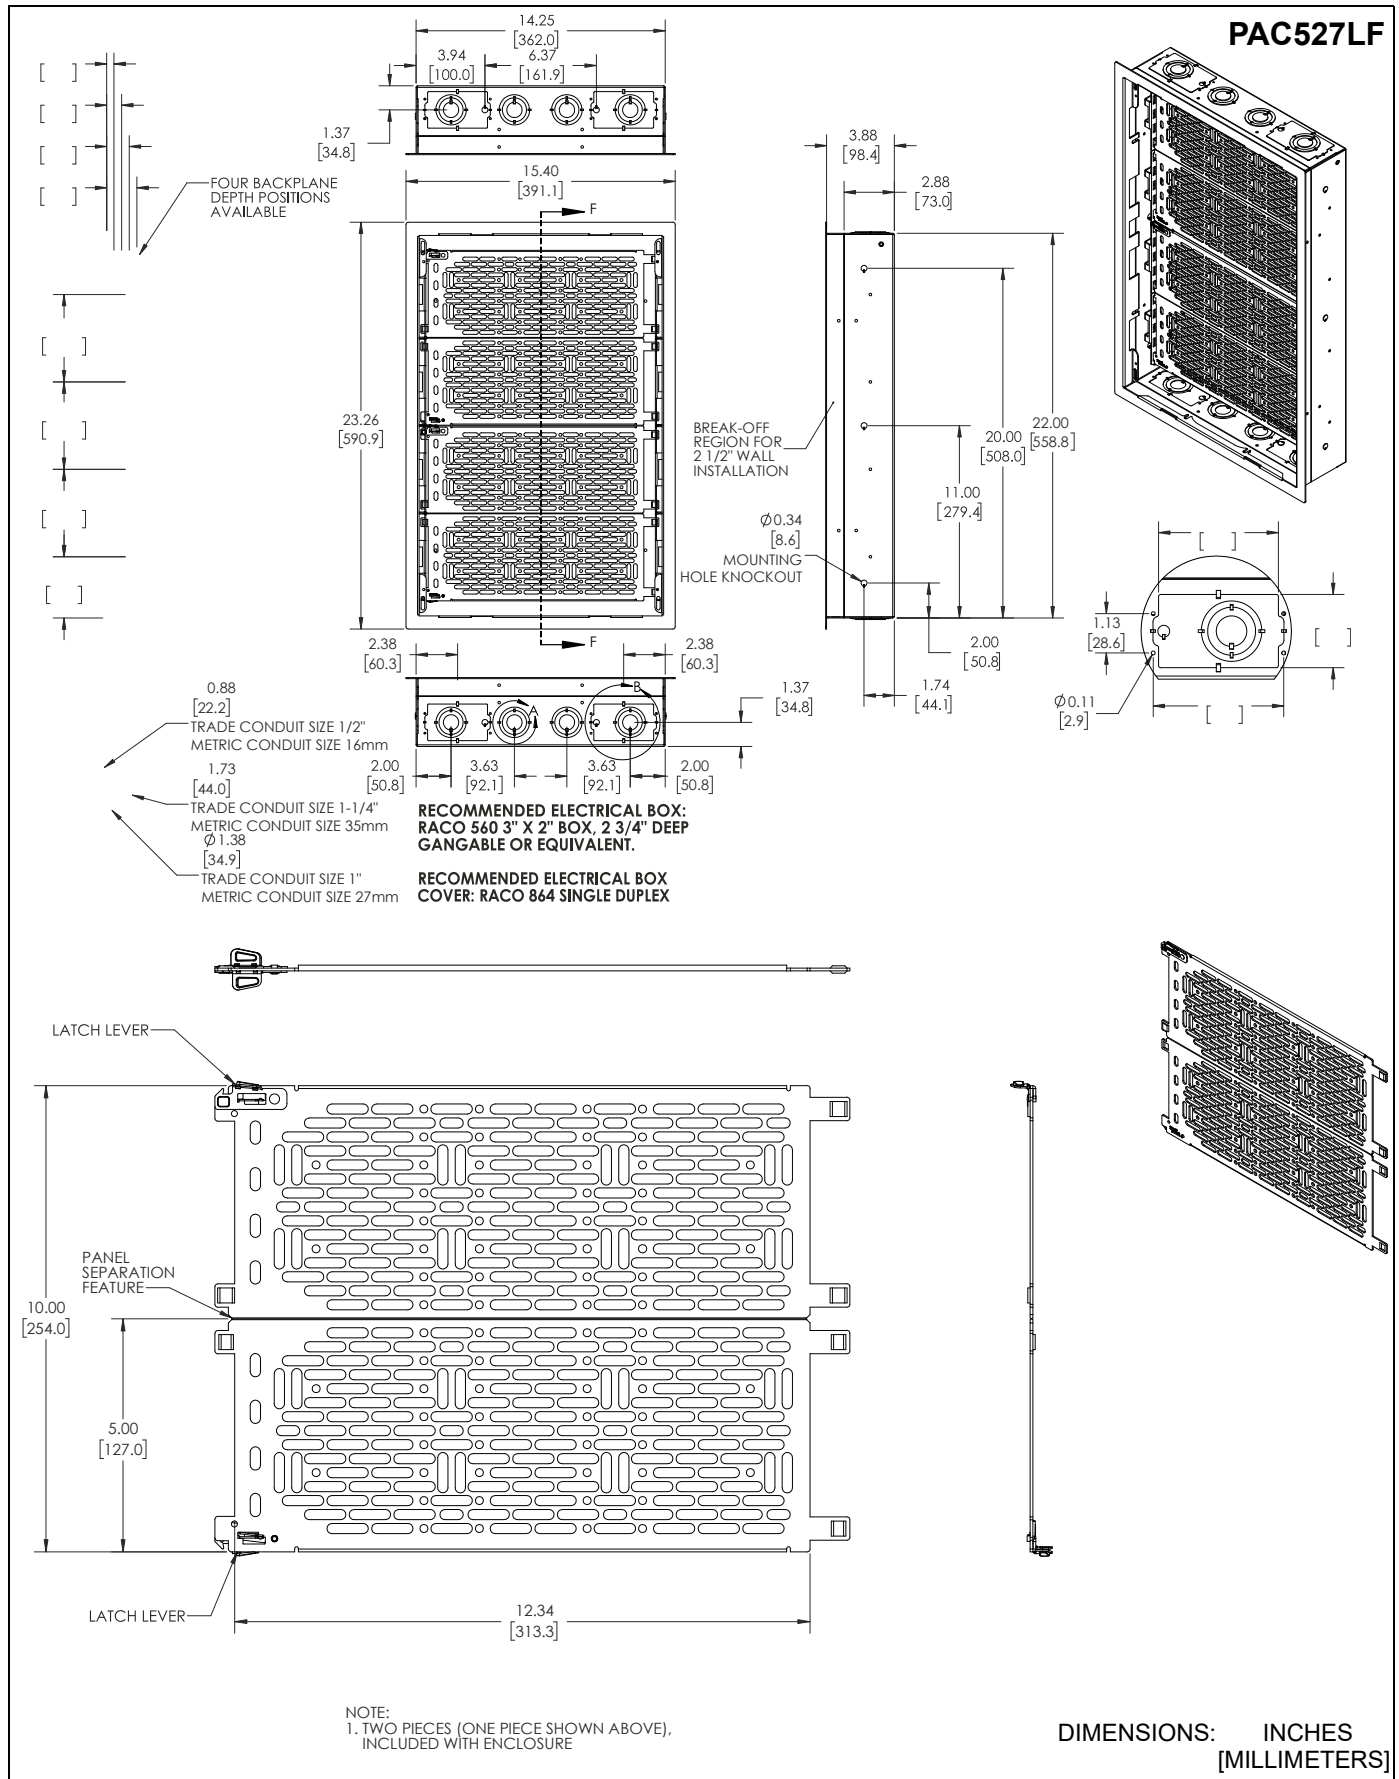

**Figure 18**
(See Figure 18)
3. Install cover (N) and fasten with two #6 x 1-1/4" Phillips self-tapping screws (P) [#6 x 1-1/2" button head self-tapping screws (Q) for security], two spacers (S) and two #6 lock washers (T). (See Figure 18)